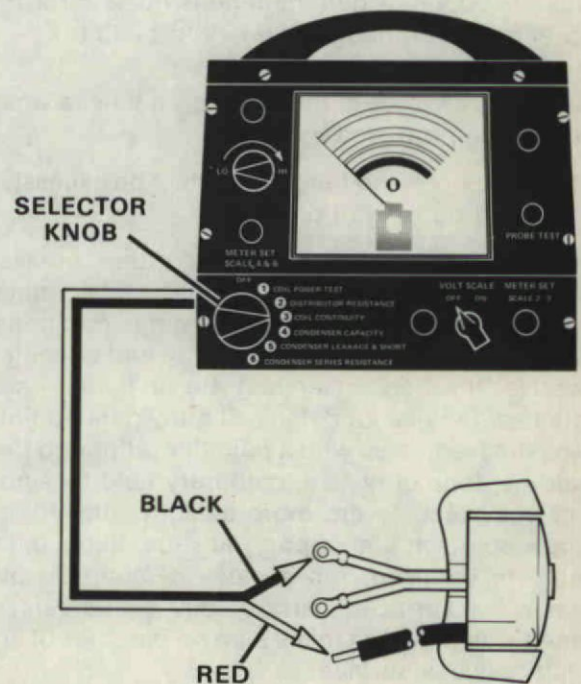

Figure 40. Testing Coil Continuity. Test #2.
5. Turn selector knob to "COIL CONTINUITY" position. Figure 40.